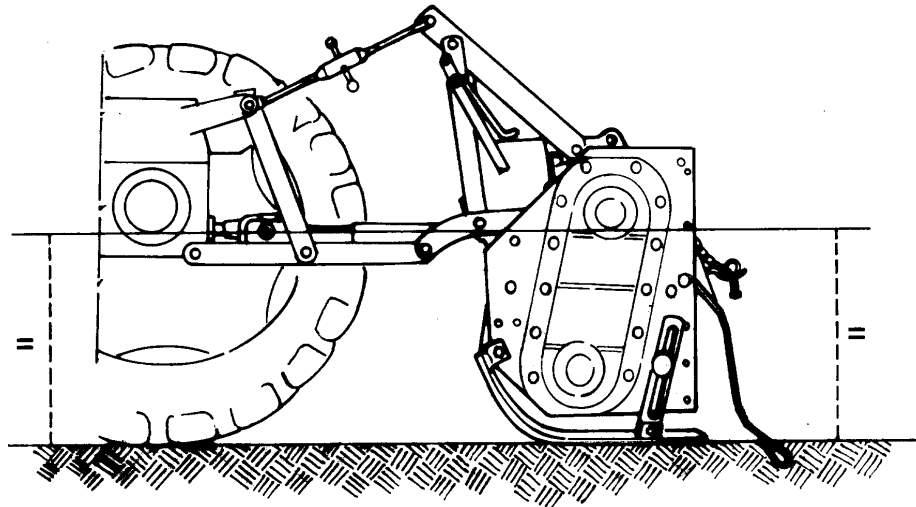

Fig. 14 - Correct work position of the tiller. A 1 to 2 degree rearward tilt is acceptable.
4. Attach the top link. Adjust it so the tiller is as near parallel to the ground as possible. A 1 to 2 degree rearward tilt is acceptable (**see fig. 14**).